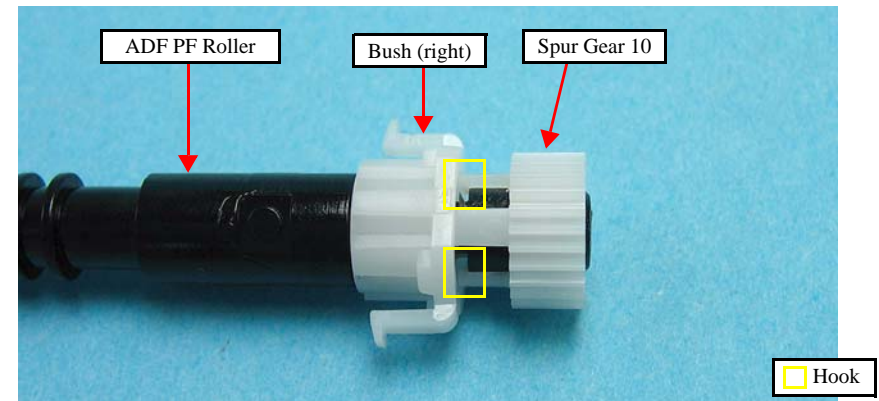

Figure 4-136. Removing the ADF PF Roller (3)
4. Attach the Spur Gear 10 to the ADF PF Roller, and secure the hooks of the Spur Gear 10 to the groove of the ADF PF Roller. (See Figure 4-136.)